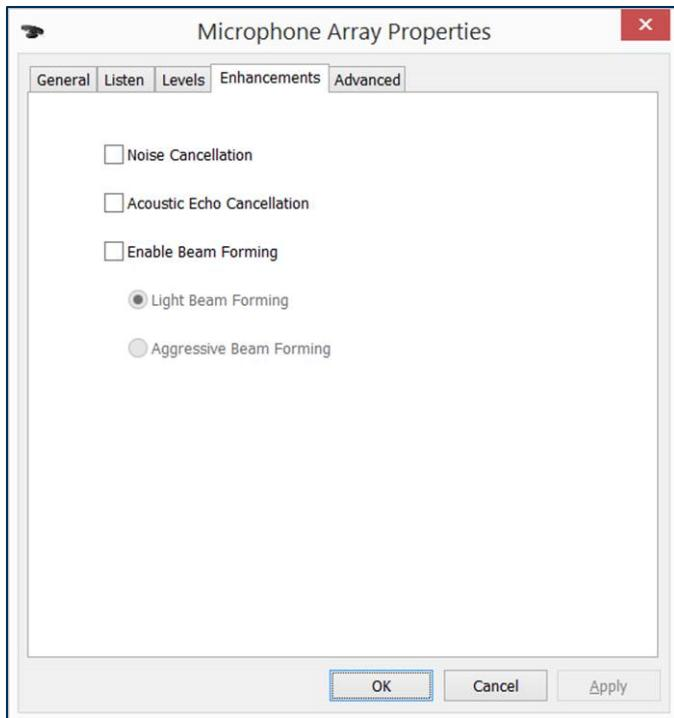

Figure 3-3 Enhancements Turned Off
- 15) Make sure all checkboxes in the **Enhancements** tab are turned off. See Figure 3-3 for an example.